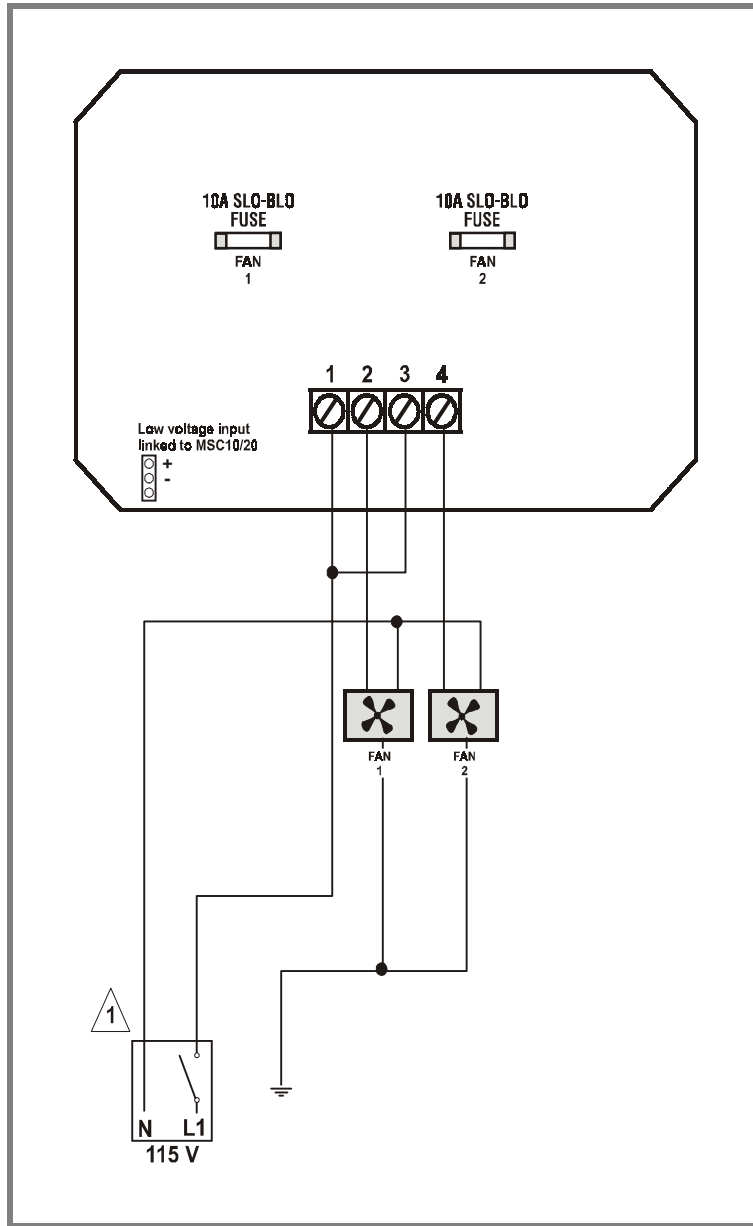

Fig. 1
For the connection procedures which follow refer to Figures 1 and 2.
Refer to figure 1.
- Connect one end of the cable to the (+) and (-) terminals of the CM3-2 low voltage terminal block. Refer to the bottom left corner of figures 1 or 2.
Notes for figures 1, and 2